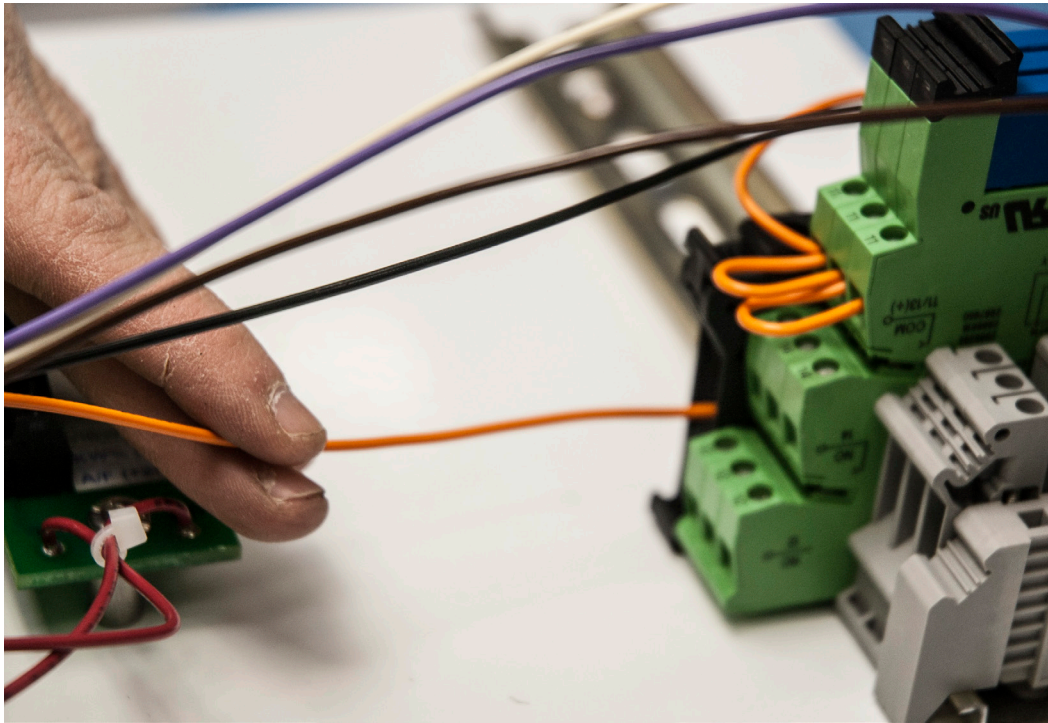

Figure 8
12. Connect the other end of the wire to the left side of the new fuse block that is being installed. See fig. 8.